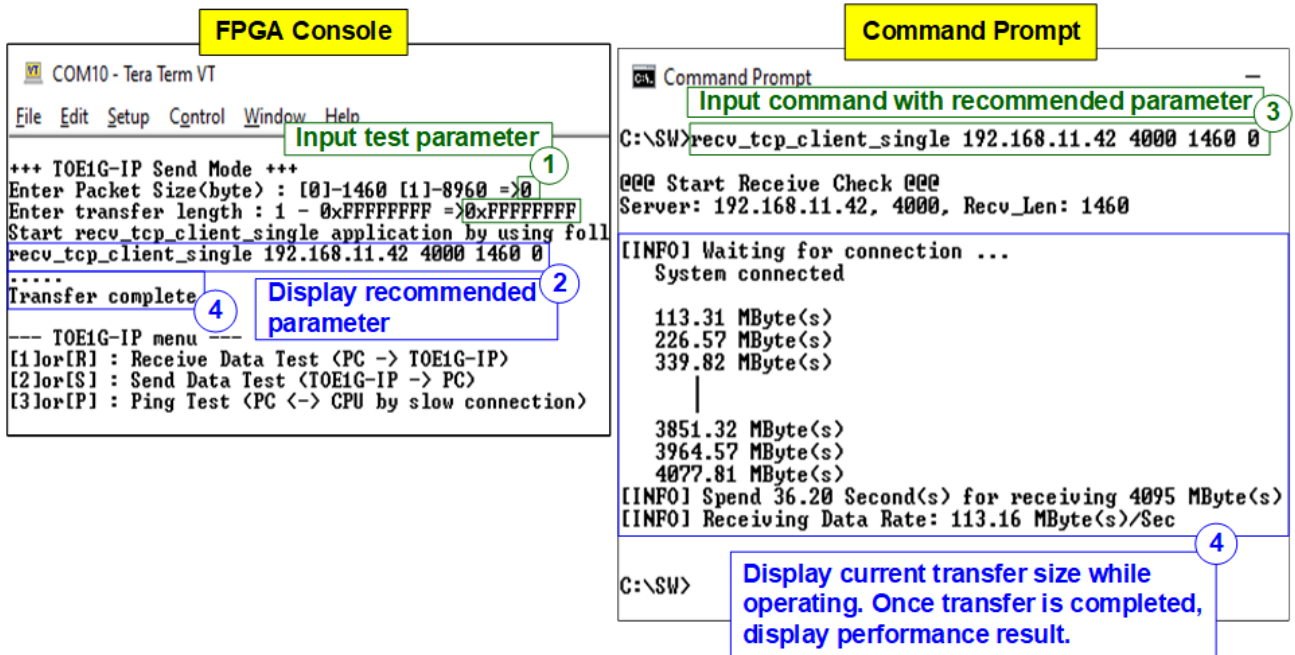
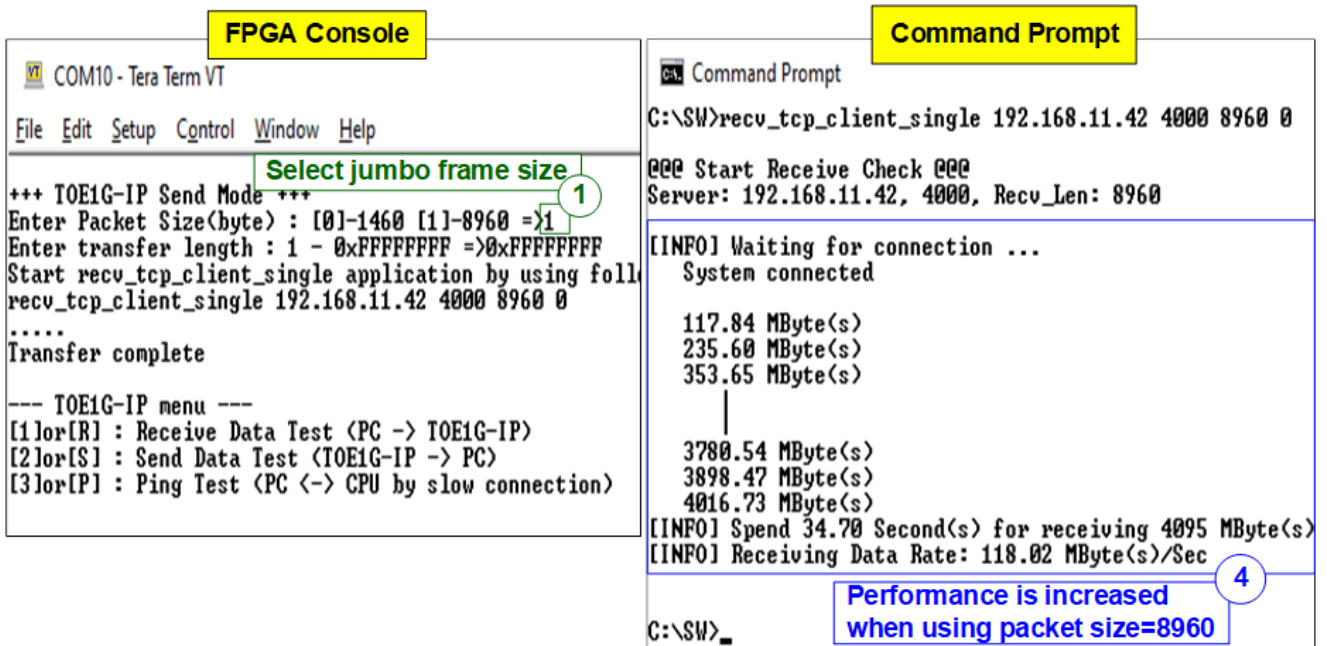

Figure 4-6 Send data test using dummy data at 1460-byte packet without data verification
Figure 4-7 Send data test using dummy data at 8960-byte packet without data verification
- b) Total transfer length: Valid range is 1 – 0xFFFFFFFF. If the total transfer size exceeds the allocated DDR area, proceed to step 2) (as shown in Figure 4-6 - Figure 4-7). Otherwise, continue to step c).